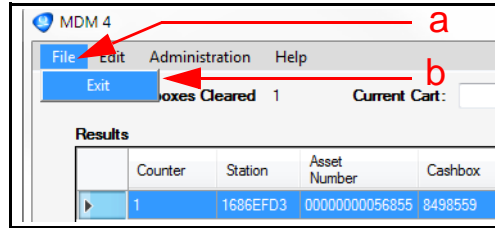

Figure 40 File Menu > Exiting MDM4
1. Click on the 'File' pull-down Menu (Figure 40 a) on the MDM4 Main Screen, and select 'Exit' (Figure 40 b) from the list.